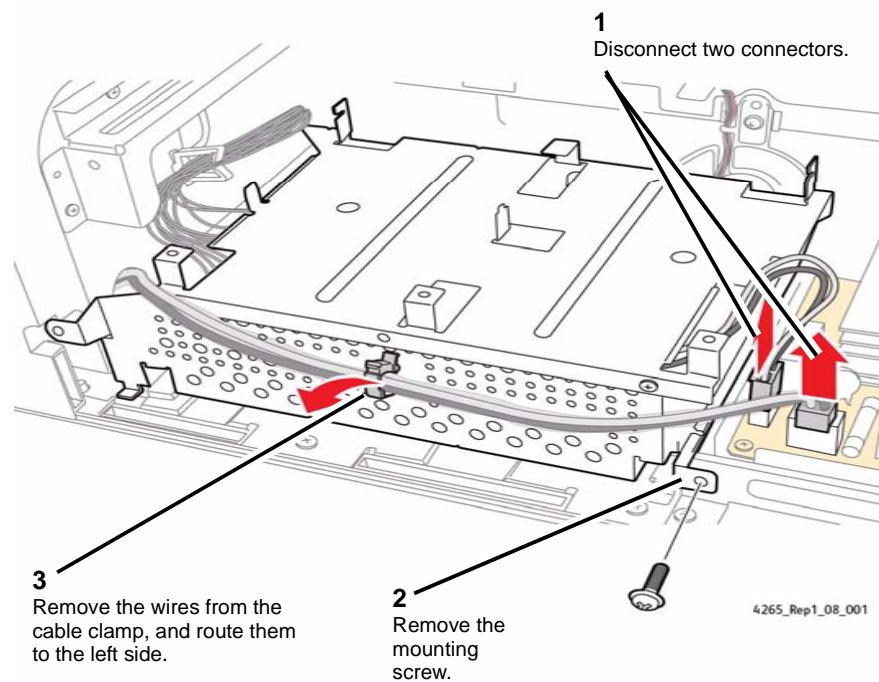

Figure 1 Preparing to Remove the Support Cage and SMPS
3. Prepare to remove the Support Cage and SMPS (Figure 1).